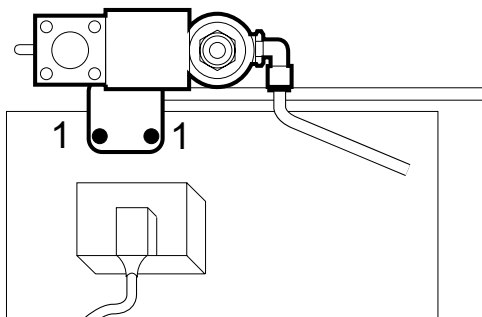

Fig. 6 Removing the filter assembly
- 3 Unscrew both Phillips screws (Fig. 6/1).